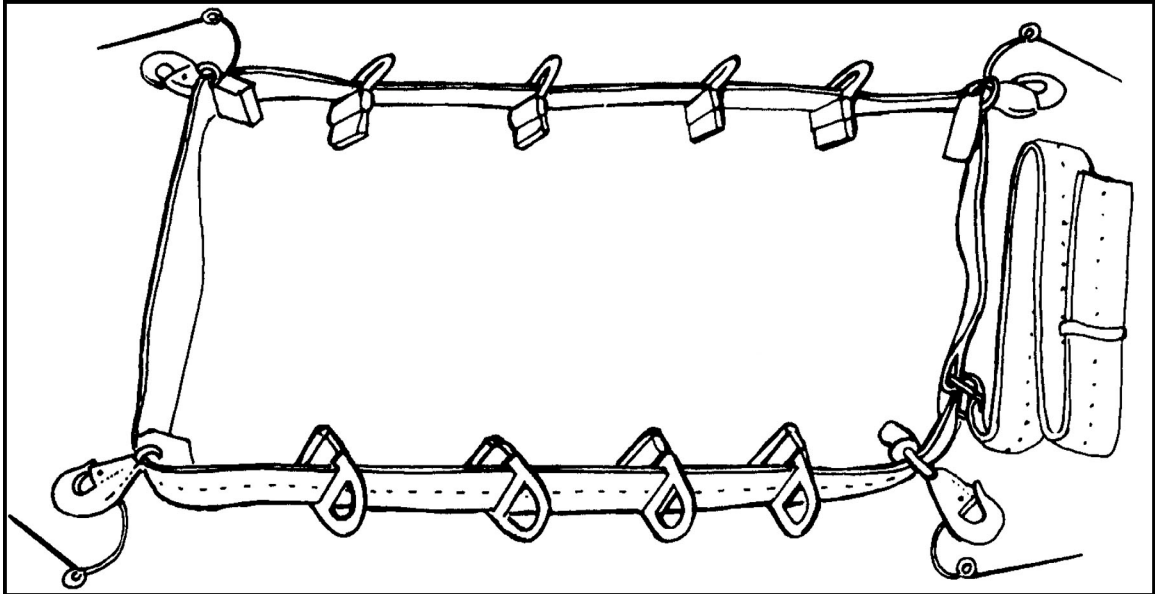

Figure 17-9. UH-60A modified anchor line.
- b. **Modified Anchor Line System.** Install a floor-mounted anchor line system (Figure 17-9)